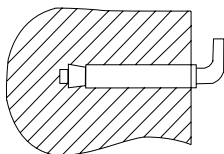
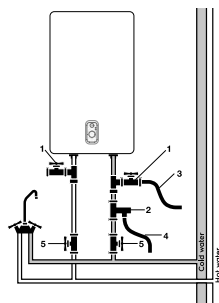

Fig. 4. Mounting anchor for mounting.
Fig. 5
- The pressure vent on the pressure relief valve (item 3 in Fig. 5) Install a drain tube and lead it to the sewer in case water is drained and excessive pressure is relieved\*. The drain tube connected to the pressure outlet must point downward.
**A tee can be provided for the drain with a valve between the valve and the sleeve (item 1, fig. 5).**
- Connect the drain hose (item 3 in Fig. 5) to the shutoff valve.
The electric water heater must be installed on a solid vertical surface (wall). The installation of AZR EEC series water heaters is greatly facilitated by the possibility to install them both vertically and horizontally anywhere in your home, in a heated (!) room. It is advisable to install the heater as close as possible to where the hot water is used, because the shorter the length of the pipes, the less heat is lost. As shown in Fig. 5. When installing the heater close to a wall, leave the recommended clearance for maintenance. Do not install the heater on a horizontal surface and up against the floor. After selecting the mounting location, locate the two fastening bolts with hooks (depending on the specifications of the selected product). Make two holes in the wall to the required depth corresponding to the size of the mounting bolts, insert the screws, rotate the hook upwards, tighten the nuts firmly and then install the electric water heater on it (see Fig. 4). If the bathroom is too small to accommodate the water heater, it can be installed in any other room, protected from direct sunlight and rain.
If you want to implement a water supply system for several water points, use the connection method (see Fig. 5).